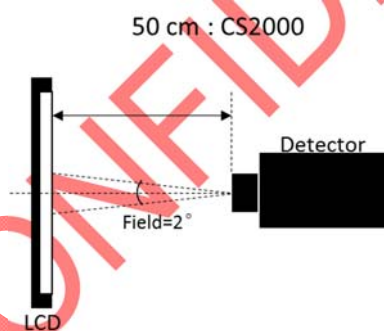

Fig 4.1 Measurement equipment.
(1) Each chromaticity coordinates (x, y) are measured in CIE1931 color space when full-screen displaying (Red, Green, Blue, White) and light source is defined by HKC Backlight, measurements shall be made at the center of the panel, and setup of measurement is shown in Fig 4.1.
(2) The color gamut is defined as the fraction in percent of the area of the triangle bounded by R, G, B coordinates and the area is defined by NTSC 1931 color standard in the CIE color space. Chromaticity coordinates are measured by CS2000 and the standard setup of measurement is shown in Fig 4.1.
(3) Definition of Transmittance (T%):
(6) Definition of Viewing angle:
As Note (4) the static contrast ratio definition, the viewing angles are defined at the angle that the contrast ratio is larger than 10 at four directions relative to the perpendicular direction of the HKC's module (two vertical angles: up θ_{y+} and down θ_{y-} ; and two horizontal angles: right θ_{x+} and left θ_{x-}). The standard setup of measurement is shown in Fig 4.1 & 4.4